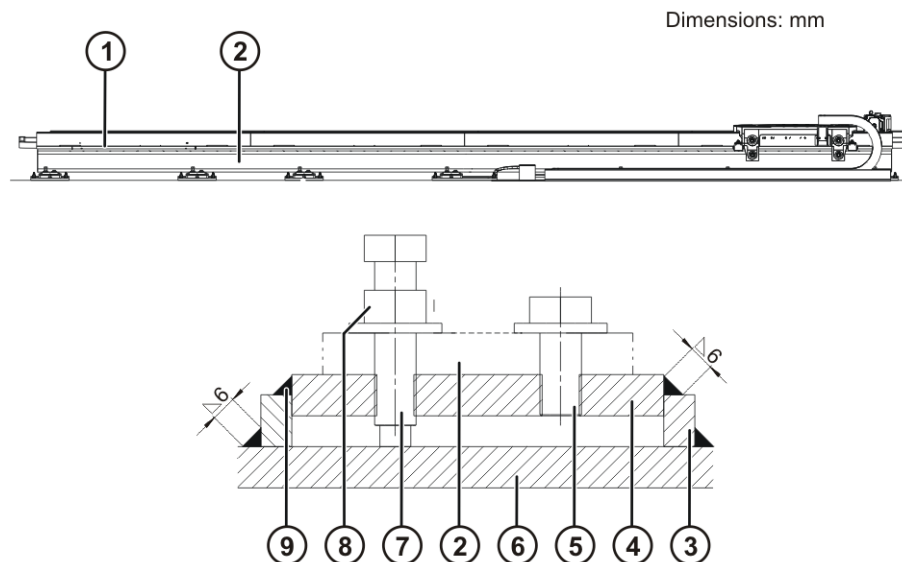

Fig. 8-2: Installation
- Lower the linear unit with bolted-on strips (>>> Fig. 8-2) (4) onto the plates.